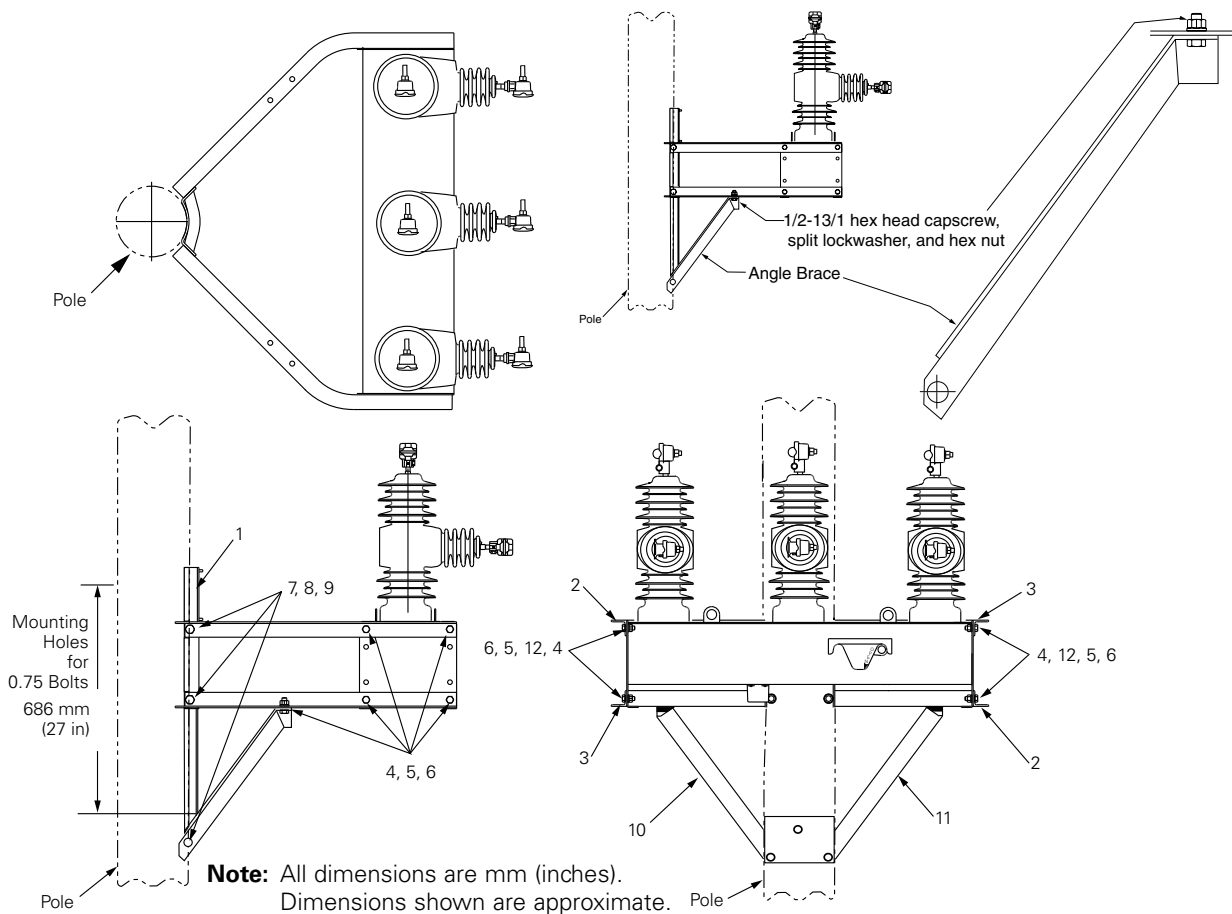

Figure 1. KNOVA-54-3 pole-mounting hanger.
2. Orient the brackets as illustrated in Figure 1.
7. Attach the angle braces (Items 10 and 11) to the bottom of the two brackets (using holes closest to switchgear) using two 1/2-13x1-1/2 hex head capscrews, split lockwashers, and hex nuts (Items 4, 5, and 6). Refer to Figure 1 for proper orientation.